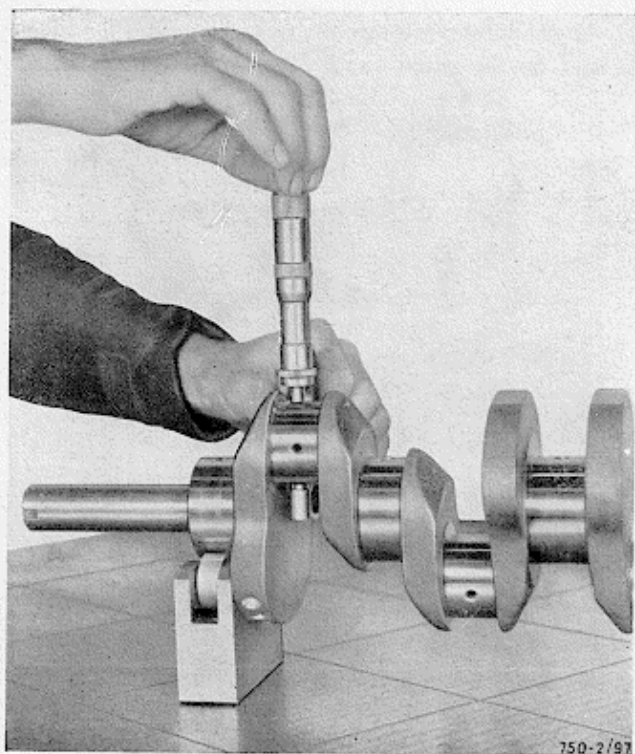

Fig. 97 - Checking the journal diameter by means of a micrometer gauge
b) Checking crankshaft and con-rod journals for oval wear. This check must be made with a micrometer as shown in fig. 97.